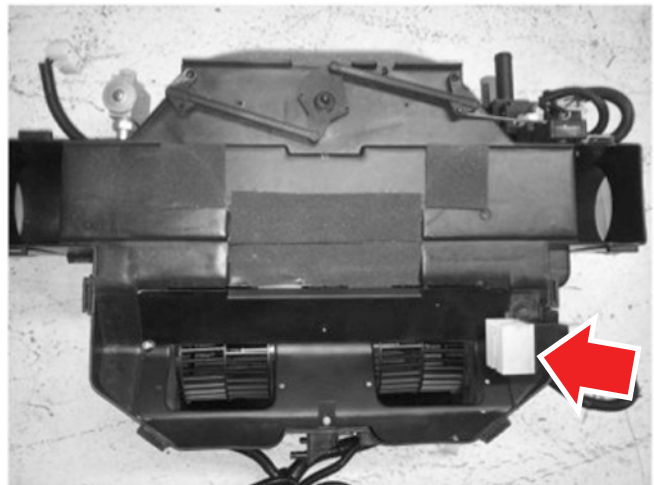

Figure 11-4
4. Remove the blower motor fan speed control module (see Figure 11-4).